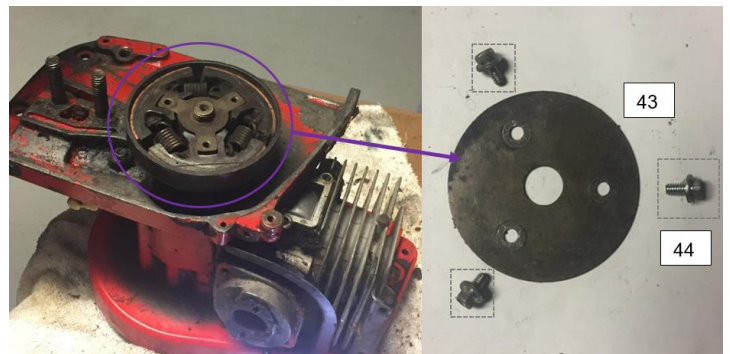

Figure 21: Clutch Plate Removal
Step 18: Use a 2/5in wrench to unscrew three Clutch Bolts (44) and manually remove the Clutch Plate (43) from the main assembly. (Figure 21)